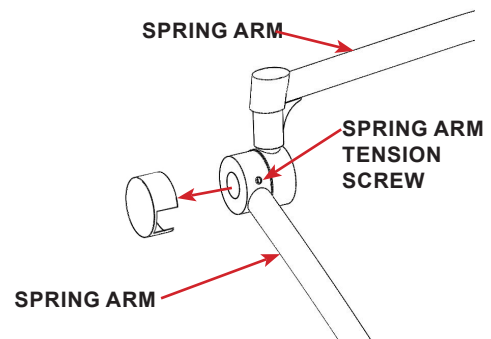

FIGURE 2.34 - Tension Adjustment
STEP 1: Remove the spring arm rotator joint cap by inserting a flat tip screwdriver and slightly pop the plastic cover from the joint assembly. Refer to FIGURE 2.34